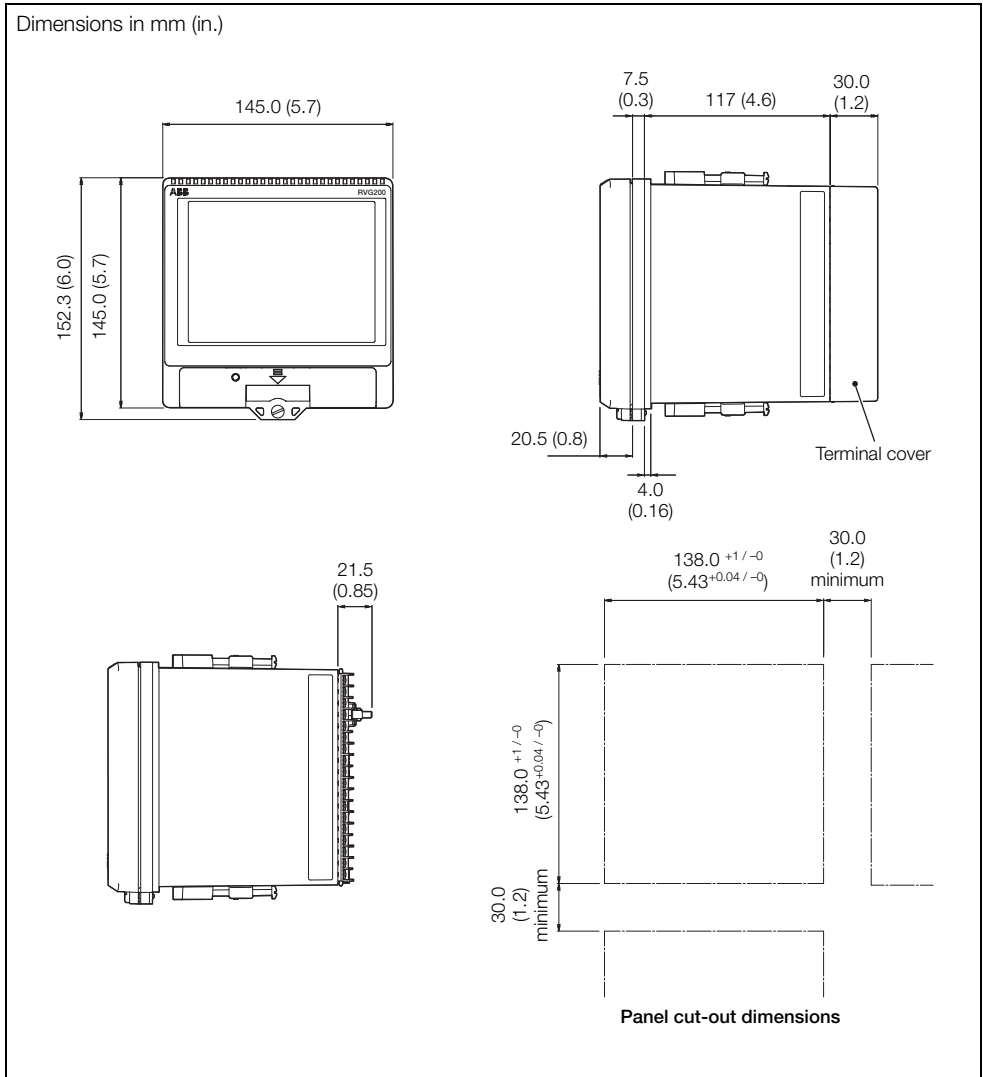

Fig. 3.3 Mounting dimensions
- ① Cut the correct sized hole in the panel – see Fig. 3.3, page 12.
- ② Insert the recorder into the panel cut-out.
- ③ Fit upper and lower panel clamps.
- ④ Tighten the clamping screws evenly and securely to a torque of 0.2 Nm (1.77 lbf.in).